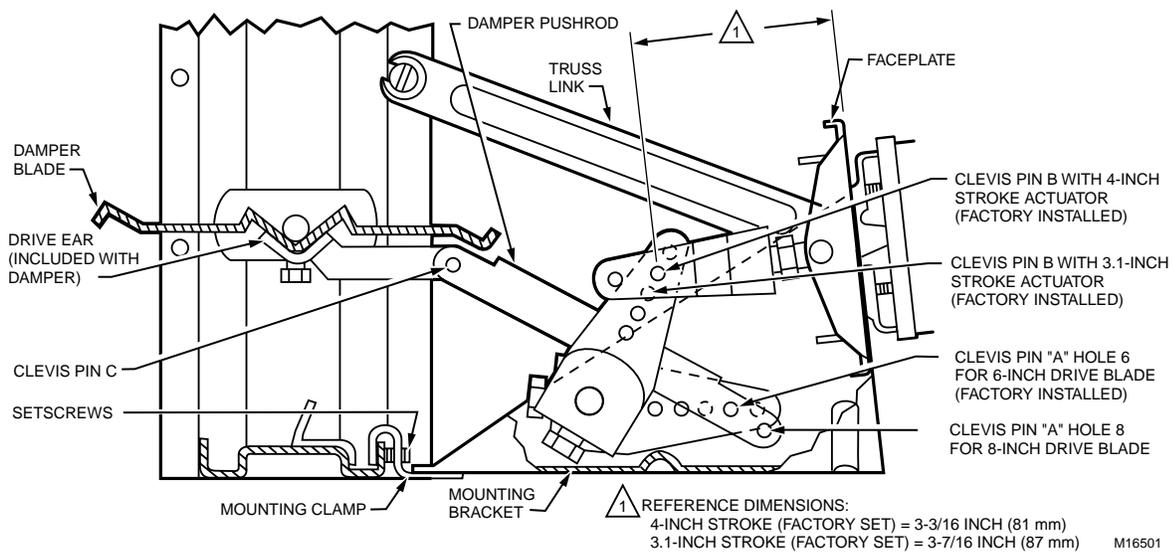

Fig. 14. Internal Mounting Normally Open Installation
2. Ensure faceplate position matches Fig. 14.
3. Use 1/8 in. Allen wrench to loosen mounting setscrews on damper mounting clamp one turn (Fig. 14).
5. Determine height of damper drive blade. Dampers with 10 (254), 12 (309), 18 (457), 26 (660), 34 (864), and 48 in. (1219 mm) height have 8 in. (203 mm) drive blades. All others have 6 in. (152 mm) drive blades.
6. For 8 in. (203 mm) drive blades, remove clevis pin A from damper pushrod clevis pin hole marked 6 and reinstall in clevis pin hole marked 8 (Fig. 14). (Mate with crankarm hole marked 90.)
7. Loosen faceplate nut between mounting bracket and truss link (Fig. 14). Remove clevis pin C from pushrod.